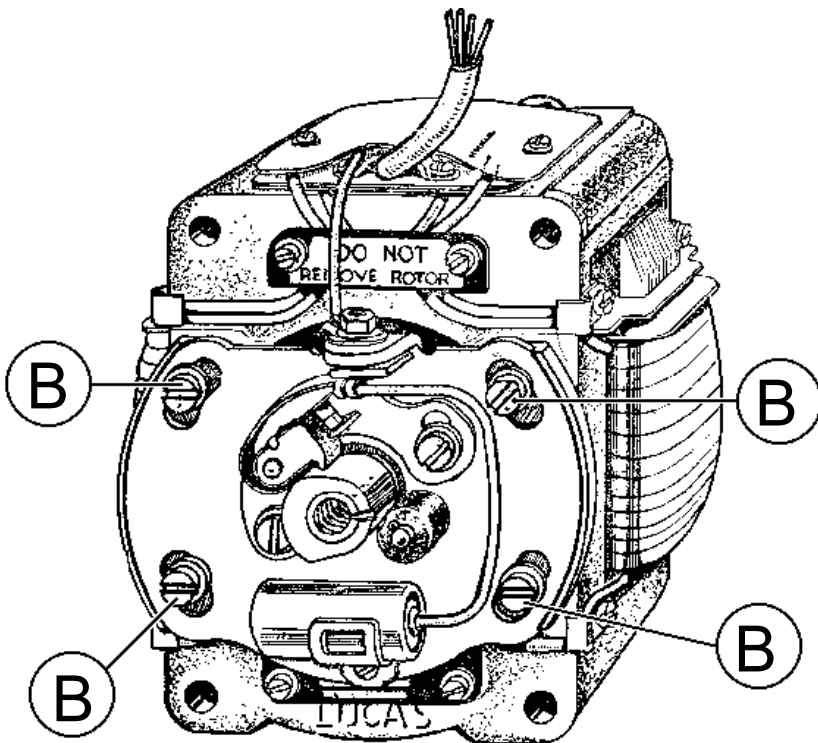

Fig. D18a.
Variation of the ignition timing is obtained by slackening off the four screws (B) Fig. D18a, and turning the timing control in the desired direction.